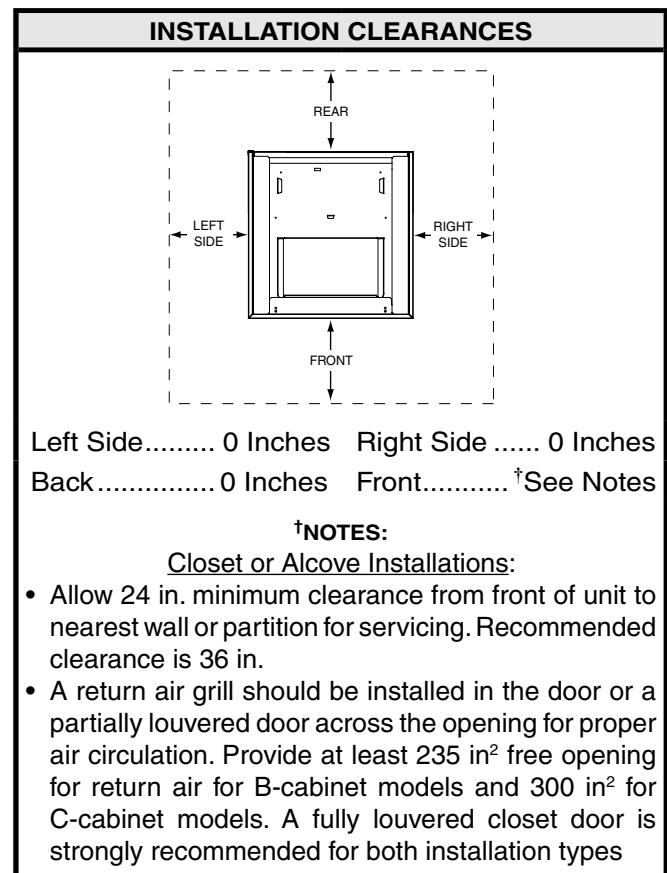

Figure 1. Minimum Unit Clearances
- The dimensions of the room or alcove must be able to accommodate the overall size of the unit and the installation clearances listed in Figure 1. Physical dimensions for this electric furnace are also shown in Figure 9 (page 13).
- This appliance must be installed in accordance with clearances listed in Figure 1. The electric furnace must be installed with ample clearance for easy access to the air filter, blower assembly, heater assembly, controls, and vent connections.
The B5BV series electric furnace is shipped ready for vertical upflow installation and is approved for attic, basement, alcove/closet or crawlspace installation with zero clearance to combustibles. See Figure 1 (page 4) for required installation clearances. **This appliance is only for indoor use.**